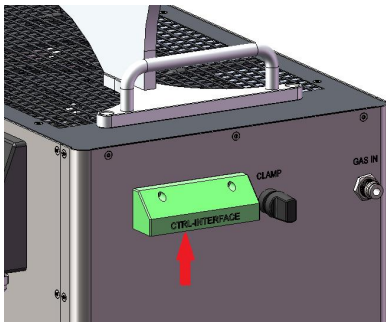
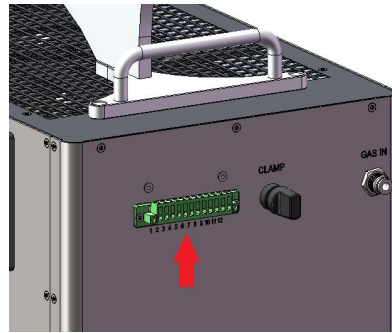

Figure 4.1
Figure 4.2
1、 Remove the protective cover of CTRL-INTERFACE on the rear panel (as shown in Figure 4.1). After removal, as shown in Figure 4.2.